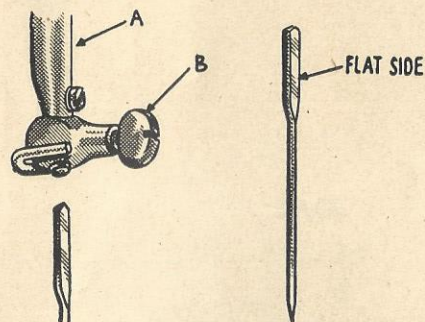

FIGURE 1
Turn Balance Wheel towards you until NEEDLE BAR Fig. 1 (A) is at its highest point, then loosen the NEEDLE CLAMP SCREW Fig. 1 (B). Hold needle with point down and insert needle with the flat surface to the right into the needle clamp as far as it will go. Then tighten the Needle Clamp Screw.